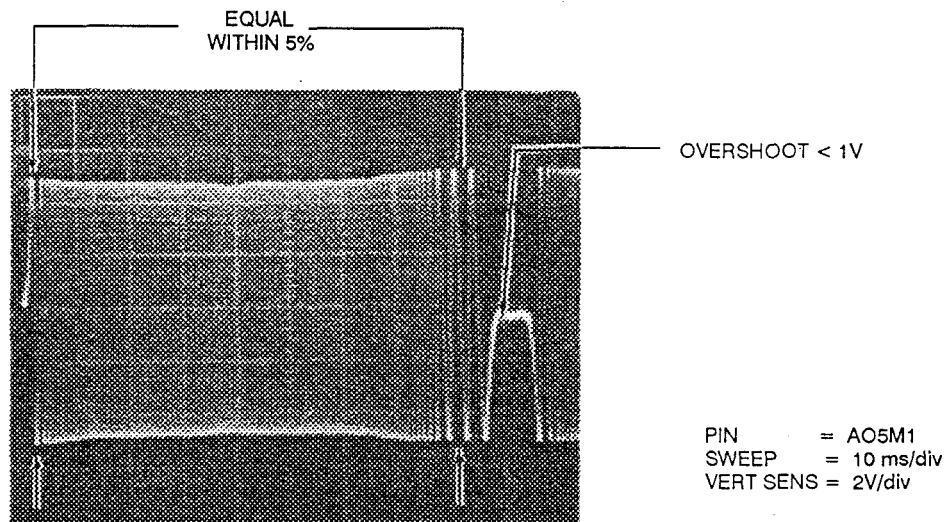

FIGURE 4.7
4.2.11 Full Stroke Position Waveform Figure 4.7.
2. Set the scope vertical sensitivity to 2 V/div. and observe A05M1 (SINE POSITION) for a scope display similar to that shown in Figure 4.7. The waveform amplitudes at the start and end of the seek must be equal within 5% and the overshoot at the end of the seek must not exceed 1 volt. If overshoot is excessive, recheck the VA and the Acceleration (Positioner Current).